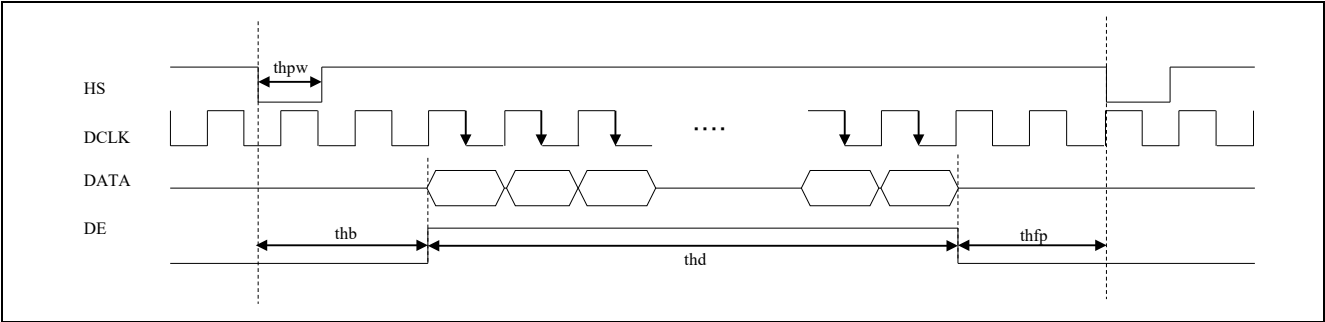
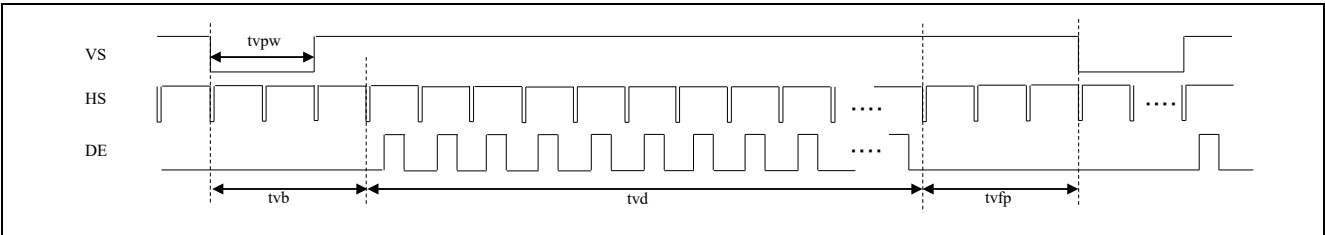
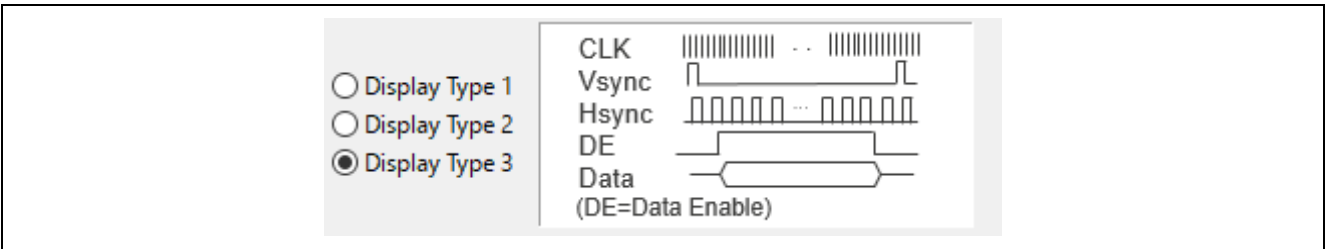

Figure 6.4 Horizontal Input Timing Diagram
Figure 6.5 Vertical Input Timing Diagram
Figure 6.6 Display Type Selection
Figure 6.4 and Figure 6.5 show horizontal and vertical input timing charts for the RSK TFT APP BOARD. The Horizontal Sync (Hsync) signal, Vertical Sync (Vsync) signal, and Display Enable (DE) signal shown in these timing charts are required, so select display type 3 (Figure 6.6).
Figure 6.4 and Figure 6.5 show horizontal and vertical input timing charts for the RSK TFT APP BOARD used in this example. Table 6.3 and Table 6.4 list the input timing of the horizontal and vertical sync signals. After entering these control timing values, the result is as shown in Figure 6.7. The values input under **Typ** are used for timing control, and the values input under **Min** and **Max** are used to confirm that values are within the allowable range when the GUI is used for timing adjustment in **QE for Display**.
Based on Figure 6.4 and Figure 6.5, the polarity of the control signals is listed below.
Regarding the data output timing, since sampling occurs at the falling edge of the DCLK signal, according to Figure 6.4, the timing of data output on the VDC5 side is at the rising edge of the panel clock.